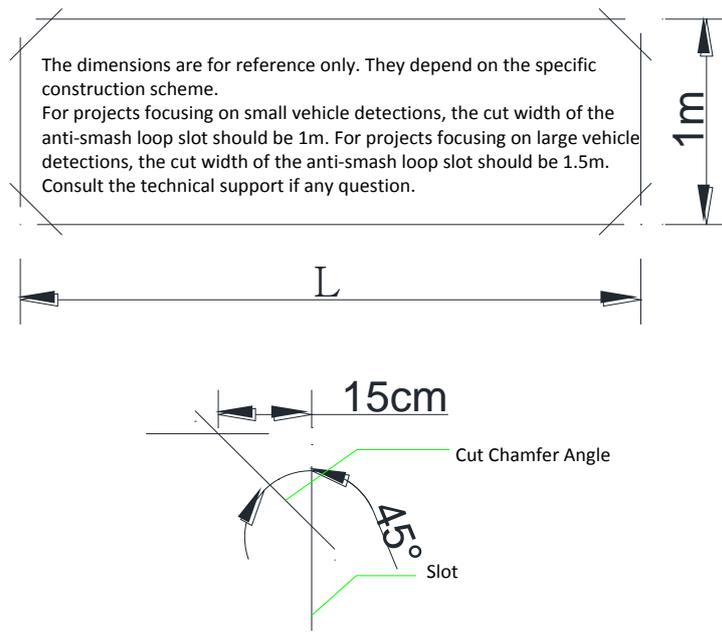

Figure 2-1 Slot Cutting Detail Drawing
1. For projects focusing on small vehicle detections, the cut width of the anti-smash loop coil slot should be 1m. For projects focusing on large vehicle detections, the cut width of the anti-smash loop coil slot should be 1.5m. The four edges of the rectangular slot need to be cut, so as to prevent sharp corners from damaging the loop cables. The cut chamfer should be 15 × 15 cm, as shown in Figure 2-1.